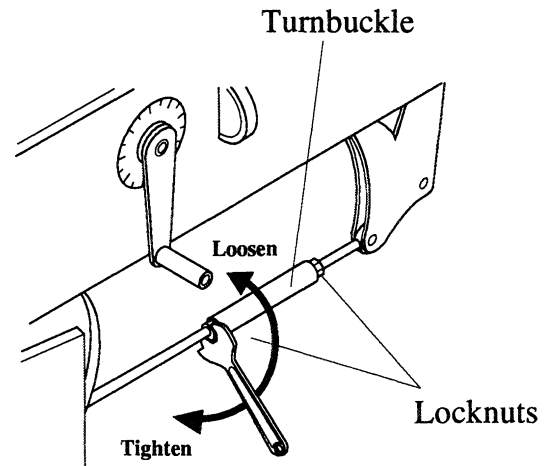
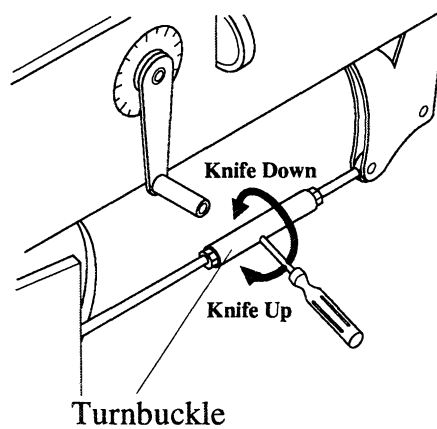

Fig. 5-3
Fig. 5-4
- Loosen knife adjusting turnbuckle lock nuts (Fig. 5-3) and adjust turnbuckle (Fig. 5-4) until paper just cuts.